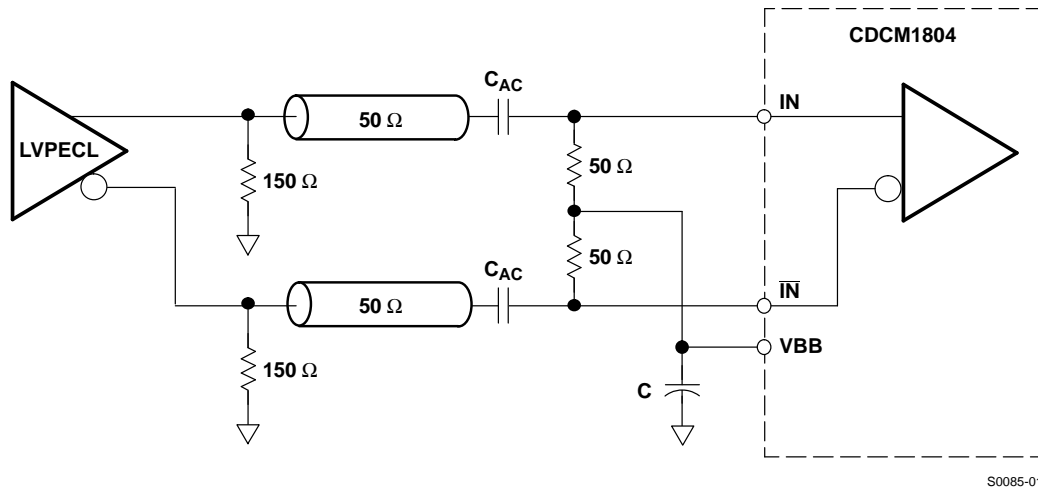

Figure 12. Recommended AC-Coupling LVPECL Receiver Input Termination
For optimized noise performance, it is recommended to properly terminate the PCB trace (transmission line). If a differential signal drives the CDCM1804, then a 100-Ω termination resistor is recommended to be placed as close as possible across the input terminals. An even better approach is to install 2 × 50 Ω, with the center tap connected to a capacitor (C) to terminate odd-mode noise and make up for transmission-line mismatches. The VBB output can also be connected to the center tap to bias the input signal to ($V_{DD} - 1.3\text{ V}$) (see Figure 12).